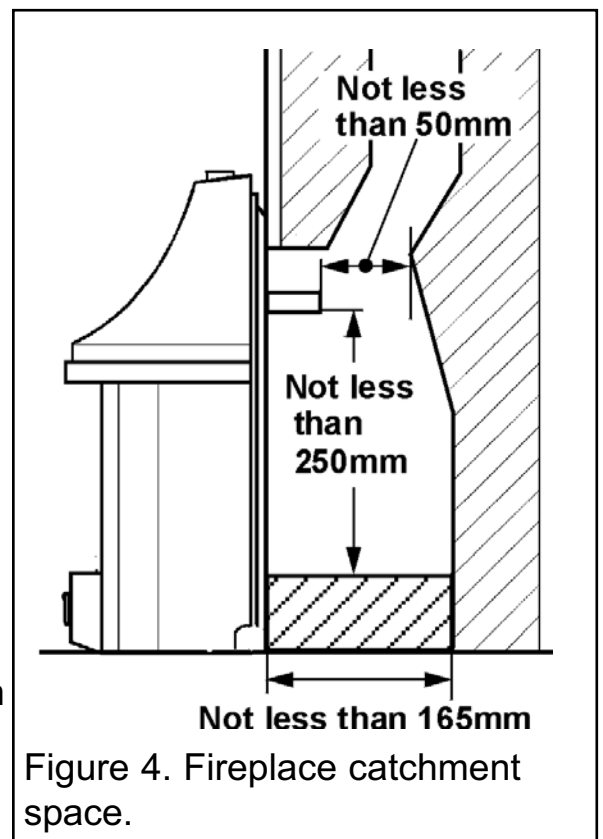

Figure 4. Fireplace catchment space.
On conventional flues the catchment space below the flue spigot must extend at least 250mm downward measured from the bottom of the flue spigot (See figure 4).
The bottom of the appliance must be at least 100mm above the finished floor covering (See figure 2). This requires the top of the opening to be at least 650mm above the finished floor covering. Any opening visible below the appliance may be closed in but the depth of the catchment space within the wall opening must be as shown in figure 4.
11. If the fire is fitted to a recessed fireplace, an extension flue spigot up to a maximum total length of 125mm may be used. The extension must be a tight fit over the flue spigot and be secured by two self tapping screws. Note the minimum clearance required as shown in figure 4.